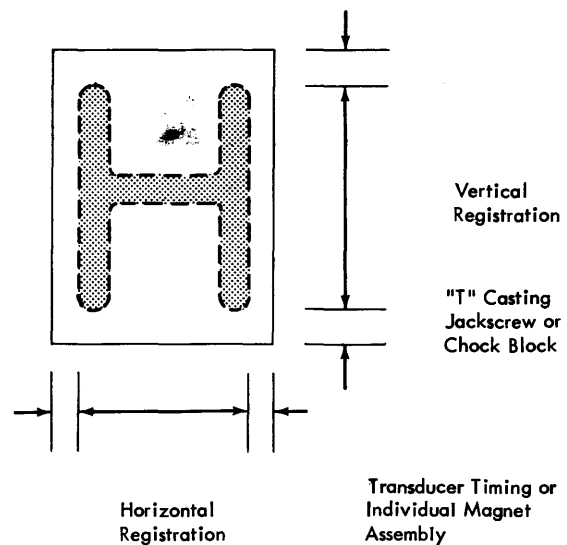

Figure 93. Print Registration
7. After the transducer air gap and output are properly adjusted, check the overall print timing by one of the following methods: (Refer to Figure 93.)